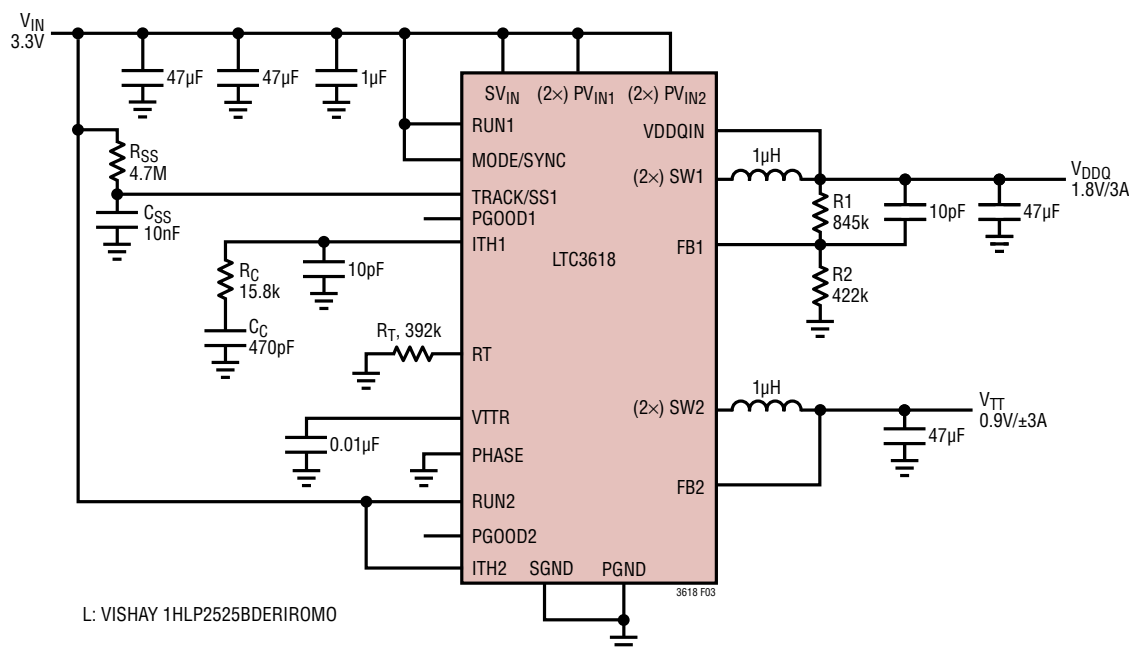

Figure 3. Soft-Start and Compensation for V_{DDQ} Externally Programmed, Compensation for V_{TT} Internally Programmed
$T_A = 25^\circ\text{C}$, $V_{IN} = 3.3\text{V}$, $f = 1\text{MHz}$, Figure 3 Circuit, unless otherwise noted.
The resistive divider allows pin V_{FB1} to sense a fraction of the output voltage as shown in Figure 3.
The ITH1 external components (15.8k and 470pF) shown in Figure 3 will provide an adequate compensation as well as a starting point for most applications. The values can be modified slightly to optimize transient response once the final PCB layout is complete and the particular output capacitor type and value have been determined. The output capacitors need to be selected because the various types and values determine the loop gain and phase. The gain of the loop will be increased by increasing R_C and the bandwidth of the loop will be increased by decreasing C_C . If R_C is increased by the same factor that C_C is decreased, the zero frequency will be kept the same, thereby keeping the phase shift the same in the most critical frequency range of the feedback loop. The output voltage settling behavior is related to the stability of the closed-loop system. The external compensation, forced continuous operation circuit in the Typical Applications section uses faster compensation to improve load step response.
After enabling the LTC3618 by bringing the RUNx pins above the threshold, the enabled channels enter a soft-start-up state. The type of soft-start behavior of V_{DDQ} is set by the TRACK/SS1 pin. The soft-start cycle begins with an initial discharge pulse pulling down the TRACK/SS1 pin to SGND and discharging the external capacitor C_{SS} (see Figure 3).
2. If a longer soft-start period is desired, it can be set externally with a resistor and capacitor on the TRACK/SS1 pin as shown in Figure 3. The voltage applied at the TRACK/SS1 pin sets the value of the internal reference at V_{FB1} until TRACK/SS1 is pulled above 0.6V. The external soft-start duration can be calculated by using the following equation: